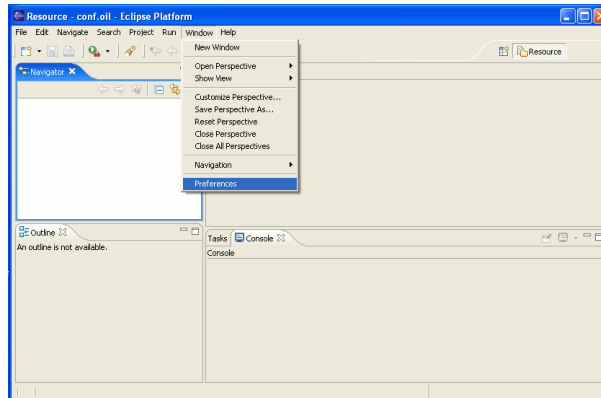
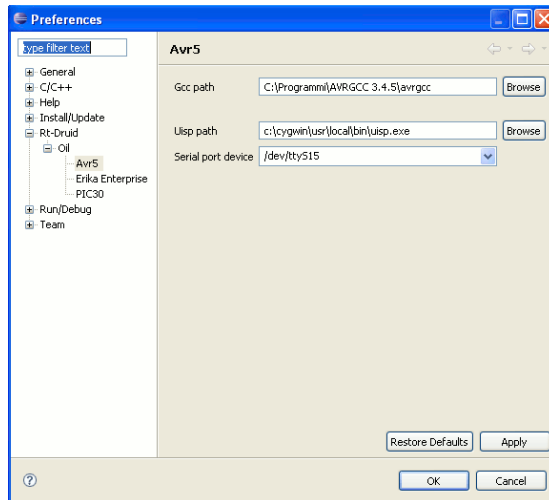

Figure 3.3: Go to the "Preference" menu.
Figure 3.4: Select paths for compiler and assembler.
4. Before being able to correctly build your application, you should set the path to the AVR-Gcc compiler. For doing so, please go to the “Preference” menu, as shown in Figure 3.3, and find the “RT-Druid/Oil/Avr5 Configurator” form as depicted in Figure 3.4. The first textbox, labeled **Gcc path**, refers to the installation directory of the AVR-Gcc compiler. The second and third textboxes are useful if you are using a development environment based on the Crossbow Mib5x0 board. In particular, the second textbox, labeled **Uisp path**, refers to the installation directory of the uisp programmer for Crossbow Mib5x0 board, and the third textbox, labeled **Serial port device**, refers to the COM serial port where the board is attached.
Warning: The install directories specified for the AVR-Gcc Compiler in the textboxes of Figure 3.4 does *not* include the `bin` directory!